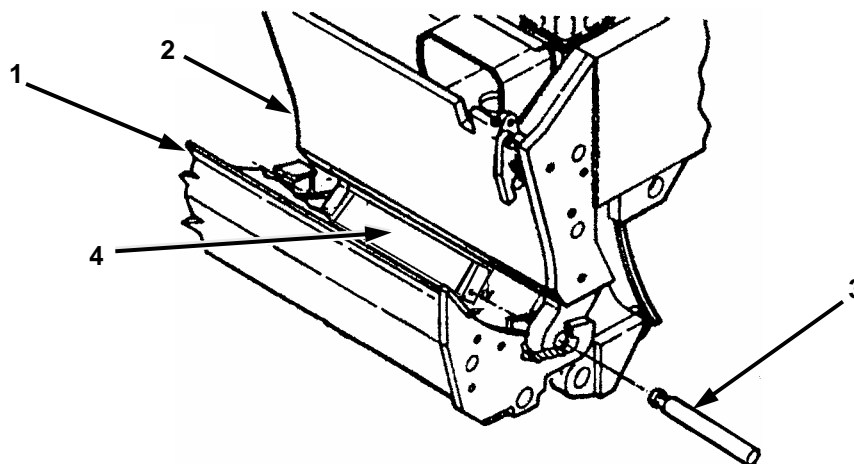

Figure 2-36. Blade.
- n. Use appropriate lifting device to install blade (Figure 2-36, 1) retained from Section III, step 1, on apron (2). Make sure that holes on blade dogs line up with holes on apron actuator (4).